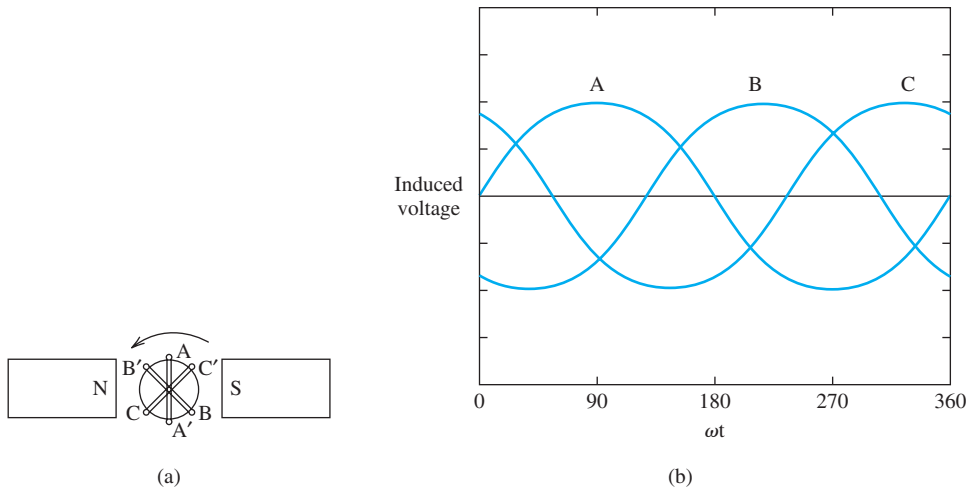

FIGURE 9.2 (a) Three coils when rotated in a uniform magnetic field; (b) waveform of the three-phase voltage.
Consider the voltage induced by three coils (A, B, C) which are placed 120° apart and are rotated in a uniform magnetic field as shown in Figure 9.2(a). The three coils have an equal number of turns and each coil rotates with the same angular velocity. Thus, the voltage induced across each coil has the same peak, shape, and frequency. These equal voltages are displaced by 120° from each other, as shown in Figure 9.2(b). *Three-phase systems* can be looked upon as three separate generators, each voltage out of phase by 120° . Three phase systems offer more efficient power transmission compared to single phase systems. To explain, consider the following example.
where E_m is the maximum (peak) value of the induced voltage as introduced in Equation (9.1). As seen in Figure 9.2(a), a generator may include three sets of coils. The rotation of these sets of coils within a magnetic field creates a time-varying voltage [Figure 9.2(b)]. These three coils supply a given load. The fundamentals of generators will be explained in Chapter 13. This section explains how the coils can be connected to a given load in either a star (Y) or a delta (Δ) shape.
The *phase sequence* of a three-phase circuit is the order in which the voltages or currents attain their maximum value. For instance, Figure 9.2(b) shows that e_{AN} peaks first, then e_{BN} then e_{CN} which results in an order of ABCABCABC.... Any three adjacent letters can be selected to designate the phase sequence, but usually the selected three are A, B, and C.